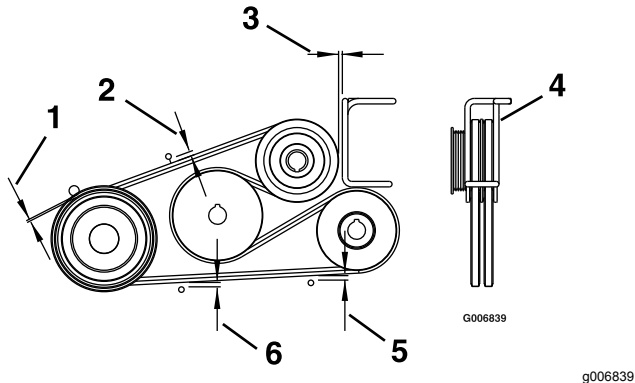

Figure 58
4. Adjust the belt guides as shown in Figure 58.